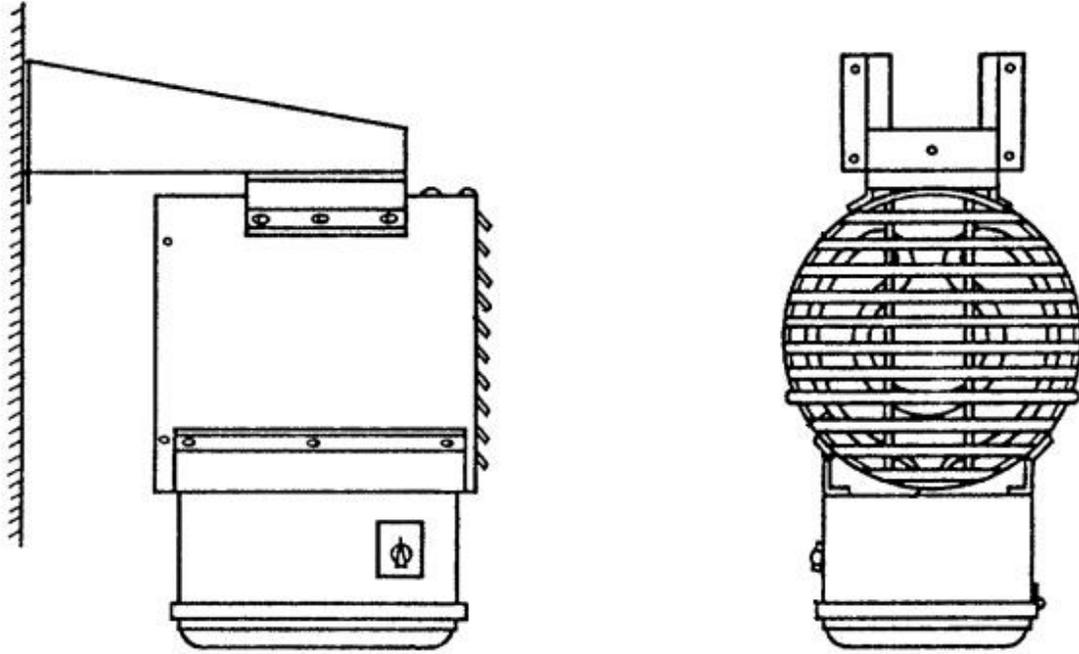

Figure 551-88L-2060_02
3. Conduct maintenance on convection space heaters, (refer to Figure 551-88L-2060_03).